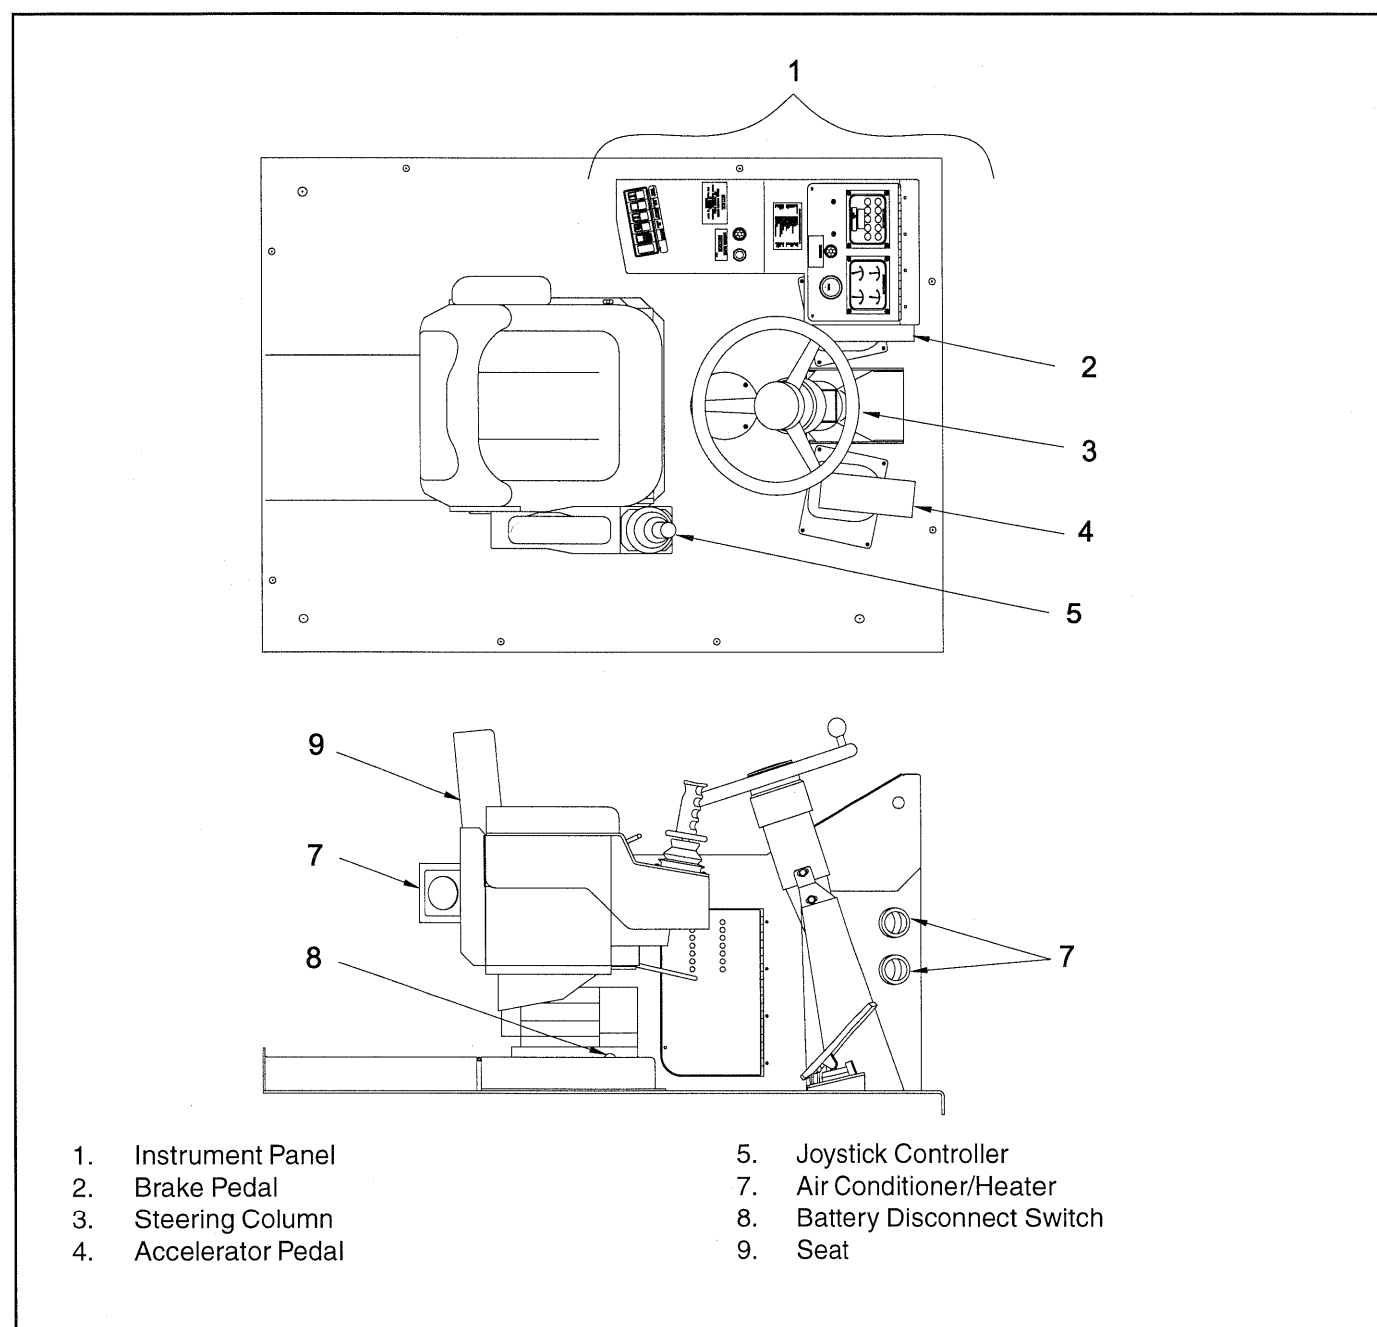

Figure 3-1: Operator's Platform
Most of the important controls and indicators are located on the operator's platform in the cab. Refer to Figure 3-1.
Refer to figure 3-1 for the parking brake location. Push the knob in to apply the parking brake and pull it out to release it.
Refer to Figure 3-1 for the location of the brake pedal. Will also declutch the transmission if the declutch switch is on.
4. Accelerator Pedal (Refer to Figure 3-1)